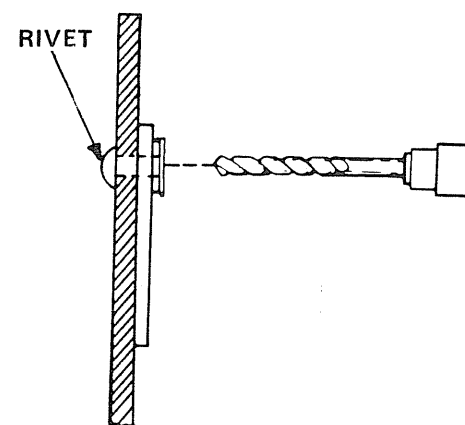

Fig. 4
1. Bore out the rivets using a drill bit slightly larger in diameter than the rivet, see Figure. 4.